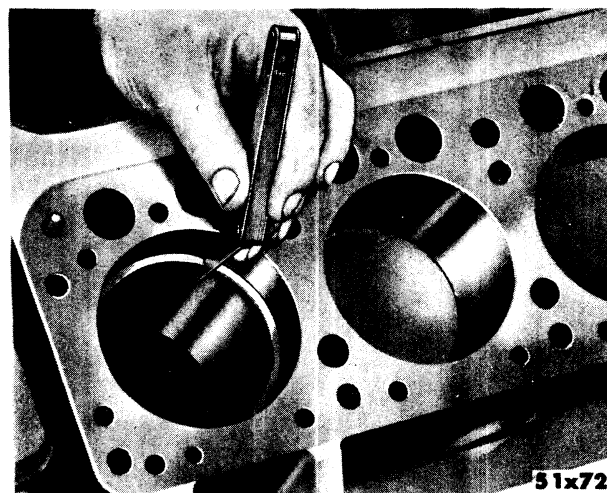

Fig. 111—Checking Ring Gaps In Bore
- (1) Measure the piston ring gap about 2 inches from the top of the cylinder bore, to which it is to be fitted. (An inverted piston can be used to push the rings down into position.) This will insure the rings being exactly square with the cylinder wall before measuring.
- (2) Insert feeler stock in gap and take measurement, as shown in Figure 111. The ring gap